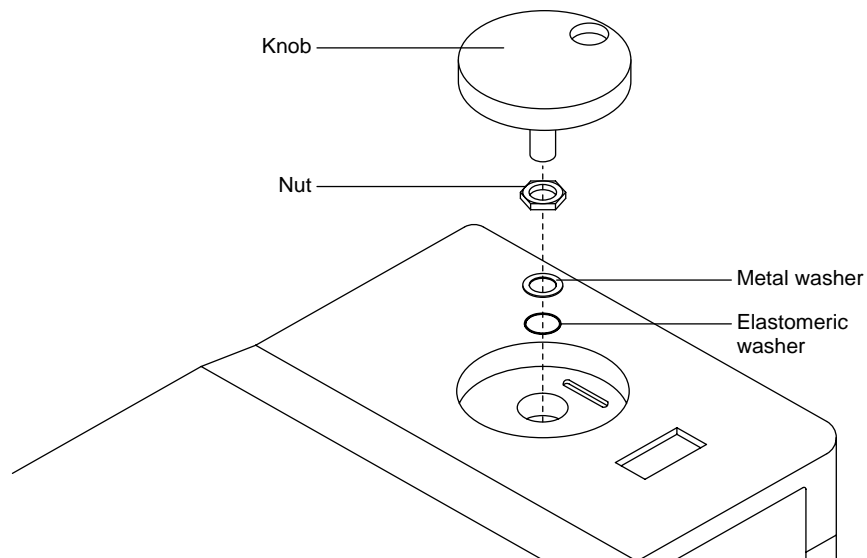

Figure 6-11: Knob Disassembly
2. Turn the cover right-side-up as illustrated in Figure 6-11 and use a small, flat blade to gently pry the knob off the shaft. When removing the knob in this manner, care must be taken not to nick and dent the surrounding top cover.